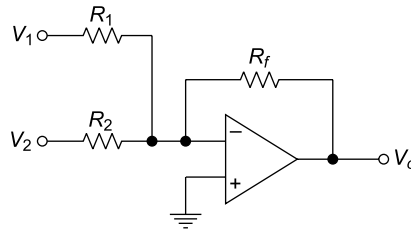

Fig. 5.11 Circuit of Ex. 5.6
5.6 Figure 5.11 shows an operational amplifier circuit with $R_1 = 1 \text{ k}\Omega$, $R_2 = 2 \text{ k}\Omega$, and $R_f = 10 \text{ k}\Omega$. Derive the output voltage V_o expression in terms of V_1 and V_2 .